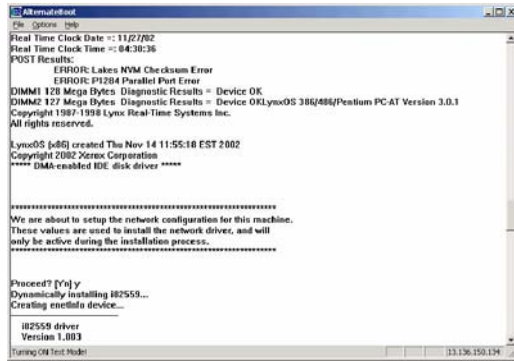

Figure 10 Loading Ethernet Controller Driver
- c. Load Boot Code File SBC***.bin (Figure 10).
- iv. Press Enter to select Y to load ethernet controller driver (Figure 10).